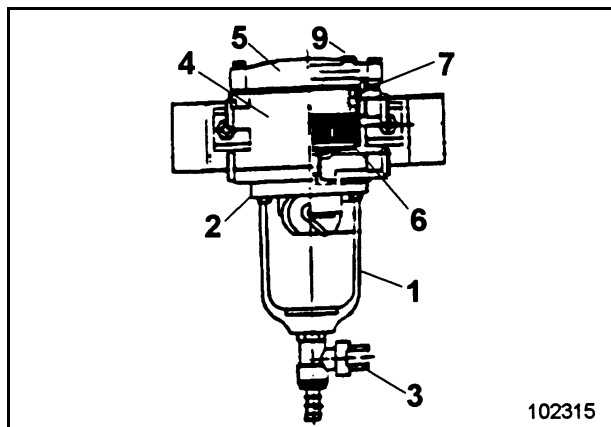

Fig. 3-63:
- ➔ Loosen venting plug (9, Fig. 3-63:) and leave drain valve (3) open until there is no more water in the diesel fuel flowing out of the valve.